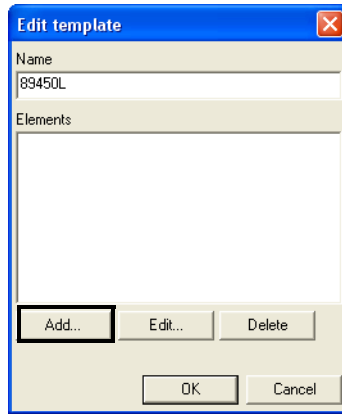

Figure 6-35. Enter Template Name and Add Element
2. On the *Edit template* dialog box (Figure 6-35 on page 6-29), type a name for the new template.
- Click **Add** to add elements to the new template (Figure 6-35).
6. To add other elements to the same template, press **Add** on the *Edit template* dialog box (Figure 6-35 on page 6-29) and repeat steps 3 and 4.